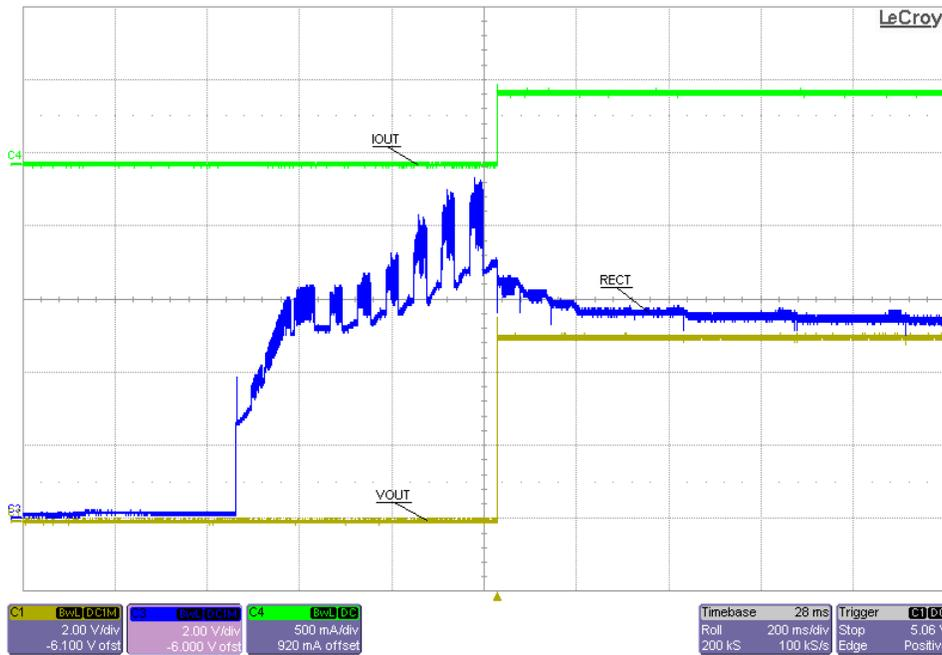

Figure 4. Start Up With 500 mA
- Monitor the RECT pin, I_{OUT} , and output voltage, as shown in Figure 4.